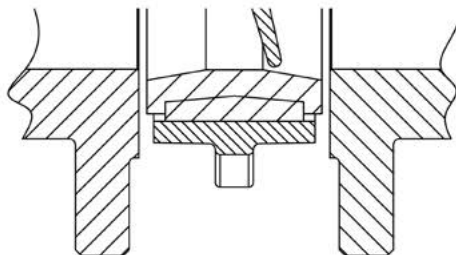

fig. 2
- The line flanges must be at a distance that allows free insertion of the valve (fig. 2).